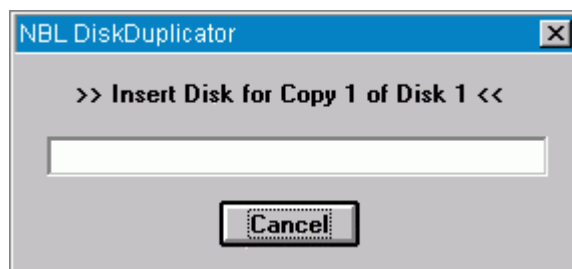

Figure 2
2. Double click on the Firmware Upgrade Executable file which was stored locally. The text box shown in Figure 2 will briefly flash on the display.